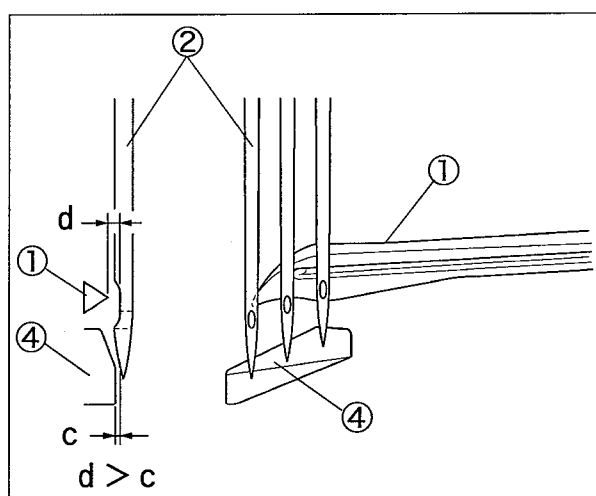

Fig. 60
- (3) When the looper ① tip meets the left needle ②, even if the left needle ② is pushed, the needle guard(rear) ④ holds the left needle ② without touching the looper ① tip. (Fig. 60)